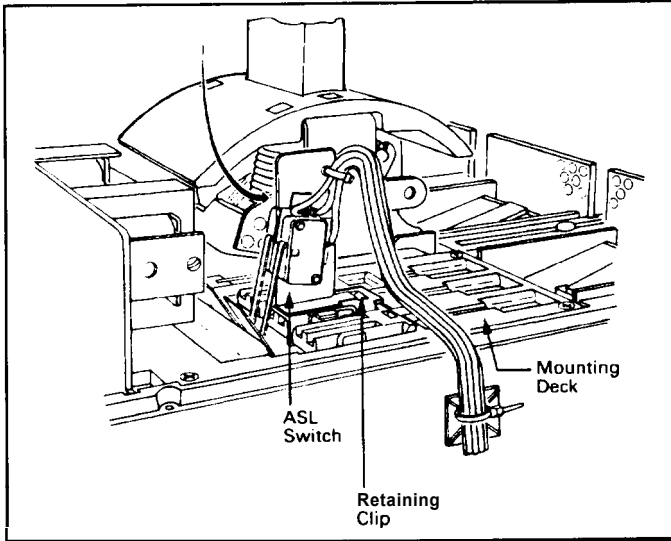
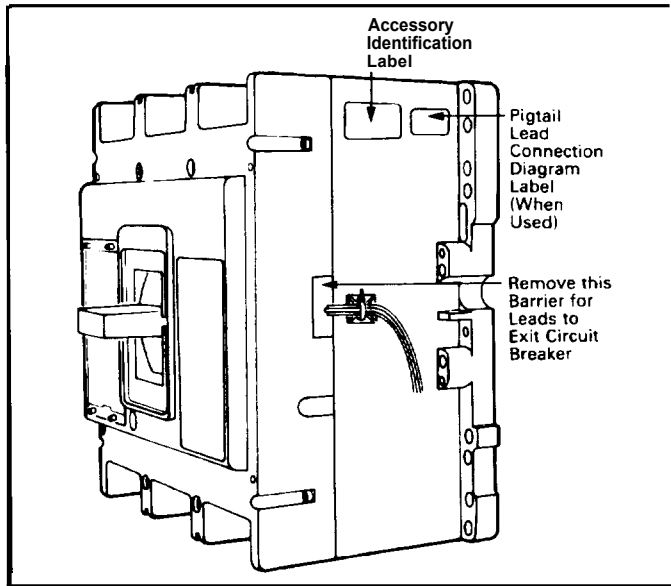

Fig. 2-3 ASL Switch Positioned and Locked in Mounting Panel.
Fig. 2-4 Preferred Mounting Locations for Accessory Nameplate Labels.
- c. Slide the ASL switch toward the line end of the circuit breaker until the retaining clip snaps into recess in deck (see Fig. 2-3).
2-6. Attach cable tie mounting pad to side of circuit breaker (see Fig. 2-4 for location). Route leads to mounting pad. Ensure leads line up with slot in cover and are clear of all moving parts. Secure leads to mounting pad with cable tie. Leads from multiple accessories may be secured by a single cable tie and mounting pad (see Fig. 2-3).
2-7. Remove barrier indicated in Fig. 2-4 from cover accessory lead slot.
2-9. Position accessory labels supplied with kit on circuit breaker as shown in Fig. 2-4.
2-12. Connect accessory leads as required (see Fig. 2-4).